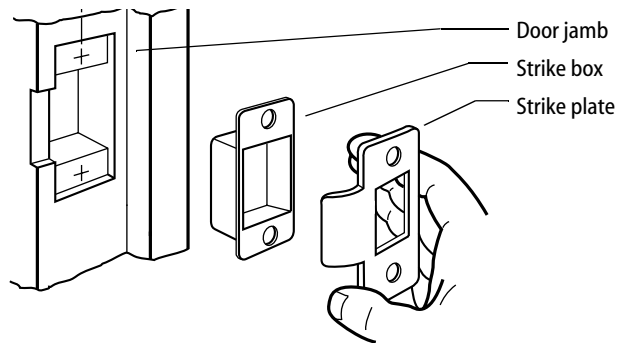

Figure 7 — Installing the strike box and strike plate
- 2 Insert the strike box and secure the strike with the screws provided. See Figure 7.